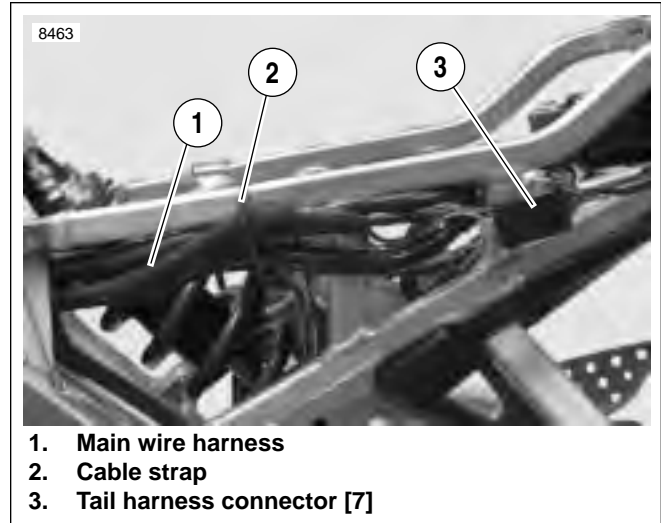

Figure 7-76. Tail Harness Connector
7. See Figure 7-76. Disconnect tail harness connector [7] (3).
26. See Figure 7-76. Connect tail harness connector (3). Attach cable strap (2).